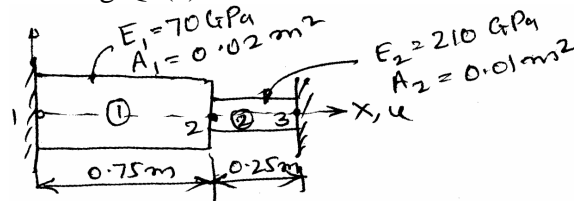

Fig.Q7(a)
- 7 a. Determine the nodal displacement at node 2, the stresses in the elements at support reactions for the stepped bar shown in Fig.Q7(a). (10 Marks)
- b. For the truss element shown in Fig.Q7(b), (x, y) co-ordinates of the element are indicated near nodes 1, 2. The element displacement dof vector is given by  $\{u\} = [1.5 \ 1.0 \ 2.1 \ 4.3]^T \times 10^{-2} \text{ mm}$ . Take  $E = 300 \times 10^3 \text{ N/mm}^2$ ,  $A = 100 \text{ mm}^2$ , determine the following: